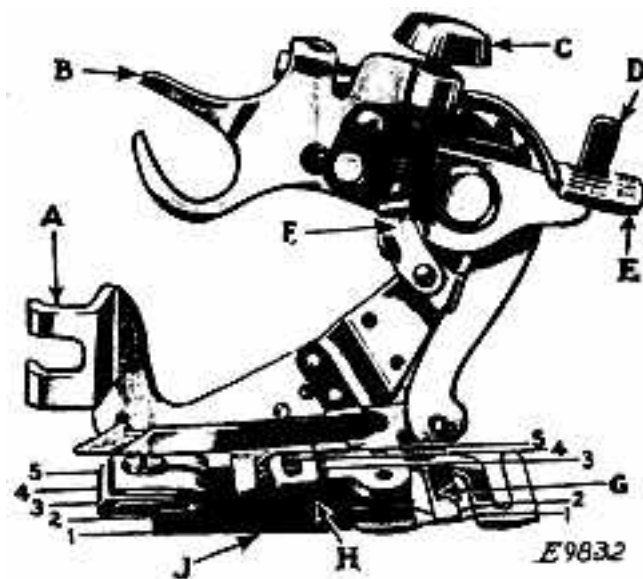
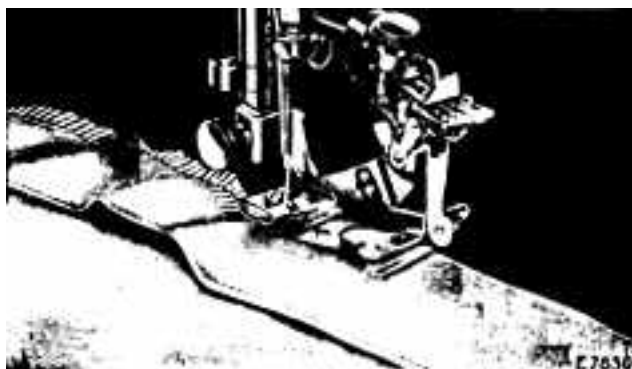
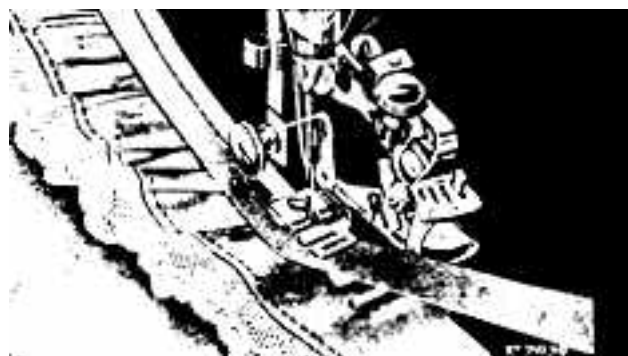
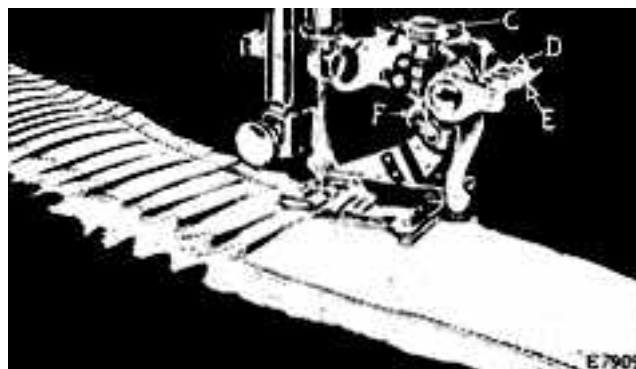

FIG. 26. THE RUFFLER AND ITS PARTS
FIG. 28.
FIG. 29.
FIG. 31.
Lines 1, 2, 3, 4 and 5 shown in Fig. 26 indicate where the material is to be placed for various operations, as follows:
Refer to Fig. 26 when inserting the material in the ruffler.
(SEE: REFERENCES IN Fig. 26)
Raise the needle bar to its highest point and remove the presser foot. Attach the ruffler foot, (A, Fig. 26) to the presser bar by means of the thumb screw, at the same time placing the fork arm (B, Fig. 26) astride the needle clamp as shown in Fig. 27.
Raise the adjusting lever (E, Fig. 27) and move it to the left so that the projection (D, Fig. 27) will enter the slot marked "1" in the adjusting lever (E) when the lever is released. The ruffling blade will then move forward and back once at every stitch. Insert the material to be ruffled between the two blue blades, following the line 2 in Fig. 26. Draw the material slightly back of the needle, lower the presser bar and commence to sew.
Insert the material to be ruffled between the two blue blades, as shown in Fig. 28, following the line 2, in Fig. 26. Place the garment to which the ruffle is to be attached, under the separator blade, following the line 1, in Fig. 26. Proceed the same as for gathering.
Insert the material to be ruffled between the two blue blades, following the line 2, in Fig, 26.. Place the garment to which the ruffle is to be attached, under the separator blade, following the line 1, in Fig. 26. Place the material for the facing over the upper blue blade, as shown in Fig. 29, following the line 3, in Fig. 26. The facing may be straight or bias material. If the facing is to be on the right side of the garment, place the garment and the ruffle so that the wrong sides are together. If the facing is to be on the wrong side, place the right sides of the garment and the
Insert the material to be ruffled between the two blue blades, following the line 2, in Fig. 26. This material must not be over 1 1/4 inches wide, as it is carried through the ruffler with the finished edge of the ruffle to the right of the attachment as shown in Fig. 30
The material for piping must measure about 1/4 inch wide when folded in the centre and is usually cut on the bias. Place the piping material in the ruffler, following the line 4, in Fig. 26, with the folded edge of the piping to the right. The material to which the piping and ruffling are to be sewn should be folded on the edge and inserted in the ruffler, following the line 5, in Fig. 26.
Raise the adjusting lever (E, Fig. 31) and move it to the right so that the projection (D, Fig. 31) will enter the slot marked "6" in the adjusting lever when the lever is released. The ruffling blade will then move forward and back once at every six stitches. To adjust the ruffling blade to make a plait once at every twelve stitches, place the adjusting lever (E, Fig. 31) so that the projection (D) enters the slot marked "12" in the adjusting lever. Insert the material to be plaited between the two blue blades, following the line 2, (Fig. 26). The size or width of plaits is regulated by the adjusting screw (C, Fig. 31) and the adjusting finger (F, Fig. 31). To make a wider plait, move the adjusting finger (F) back or toward the needle and turn the adjusting screw (C) downwardly. To make a smaller plait, turn the adjusting screw (C) upwardly. The distance between plaits is regulated by the length of stitch.